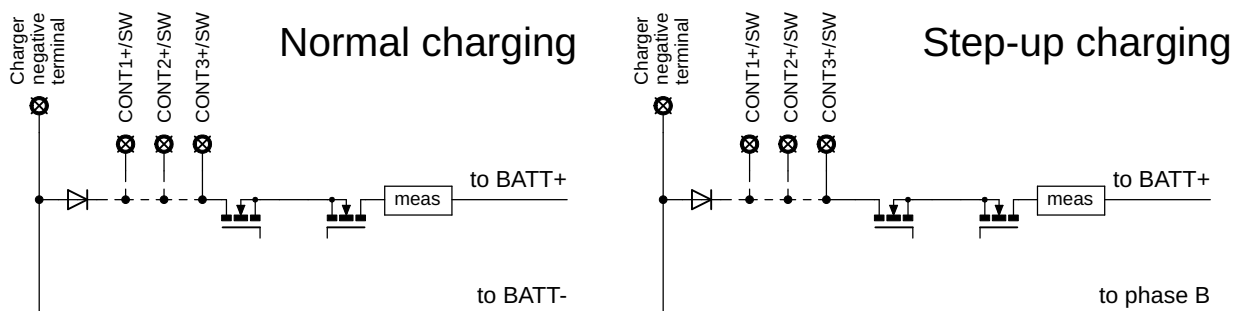

Figure 8.3: Normal and step-up charging connection
*Power switch* could be used to connect charger to battery during charging. Normal charging means that appropriate charger is used. Voltage and current rating of the charger and battery must match. SL controller acts as additional safety feature because it monitors battery current and voltage and can disconnect the charger if the values are out of limits. Positive pole of the charger is connected to the *power switch*, negative pole of the charger is connected to the negative terminal of the battery. Connection is shown in the figure 8.3. Normal charging is more effective than step-up charging, but proper charger has to be used.
SL controller also supports step-up charging. In this case controller acts as step-up (boost) converter, using connected motor inductance to boost charger voltage to battery voltage. Positive pole of the charger is connected to the *power switch*, negative pole of the charger is connected to the phase B of the controller. In this mode is charging voltage and current driven by the SL controller, any power source could be used as charger. Used source has to have **sufficient current capacity** and its **voltage has to be lower than voltage of discharged battery**. Connection of step-up charging is shown in the figure 8.3. Step-up charging is not as effective as normal charging, certain amount of heat is generated in controller itself and in motor winding. Advantage is, that almost any power supply can be used for charging, the only two requirements are voltage lower than voltage of discharged battery and sufficient current capability.